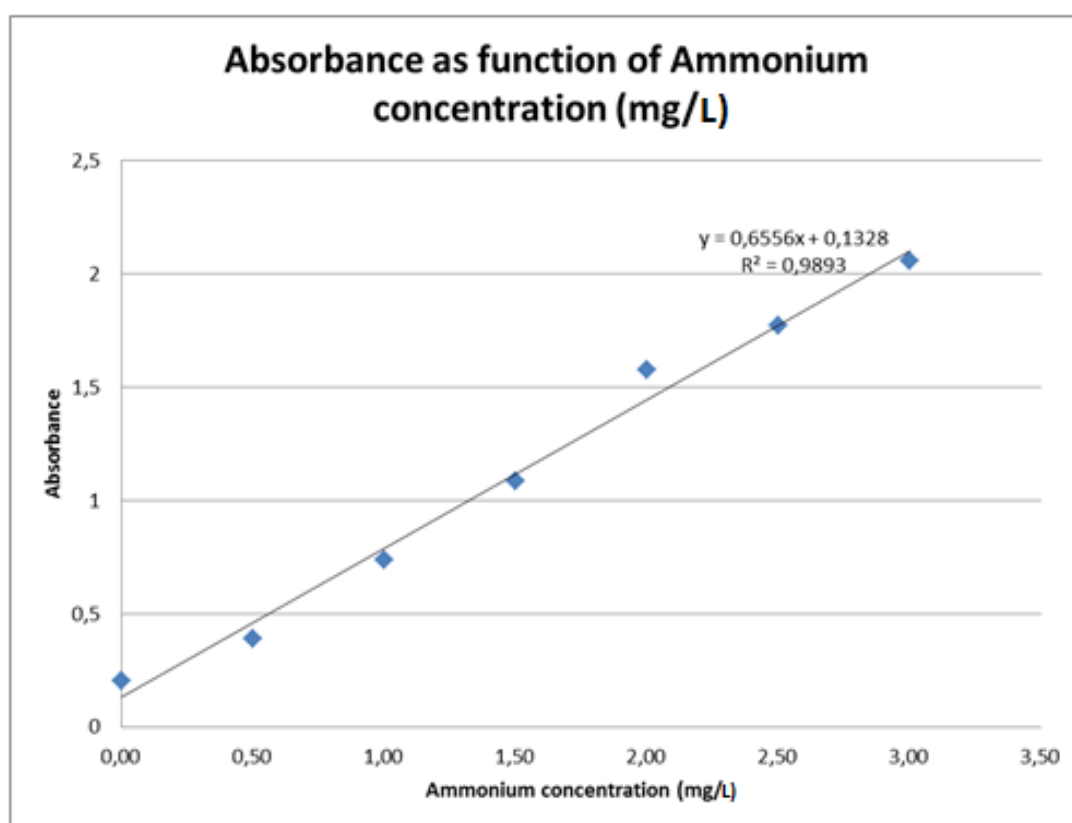

Figure 1.4. Standard curve for absorbance-ammonium concentration correlation.
11. Use the standard curve in Figure 1.4 to determine the concentration